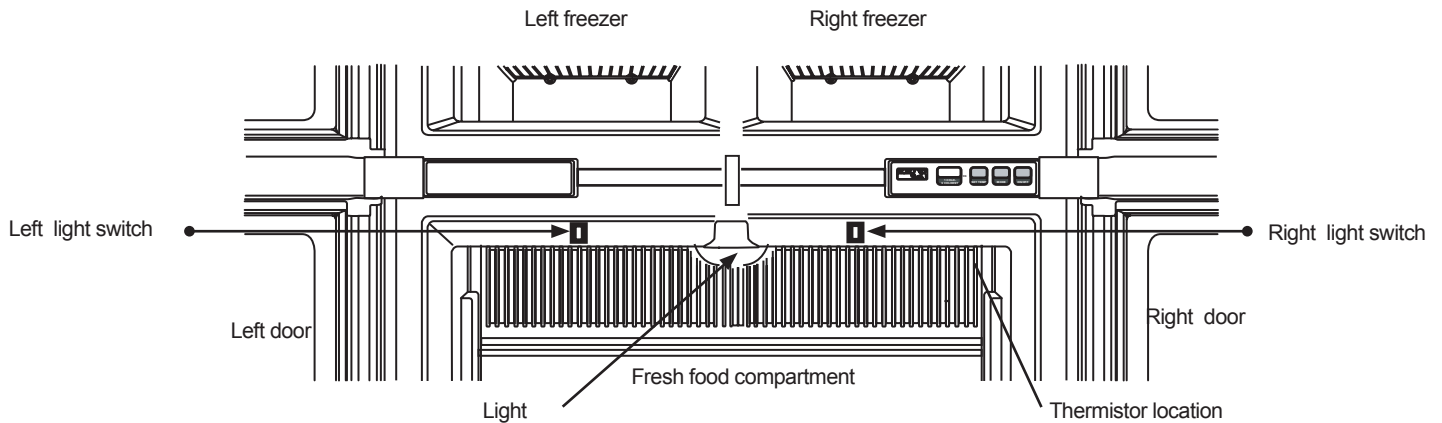

Figure 6-3. —Light, switches, and thermistor location.
The fresh food compartment light off and on operation is controlled by door operated switches. The location of each switch is illustrated in Figure 6-3, page 47.
2. Detach the thermistor from the fin. Location is illustrated in Figure 6-3.